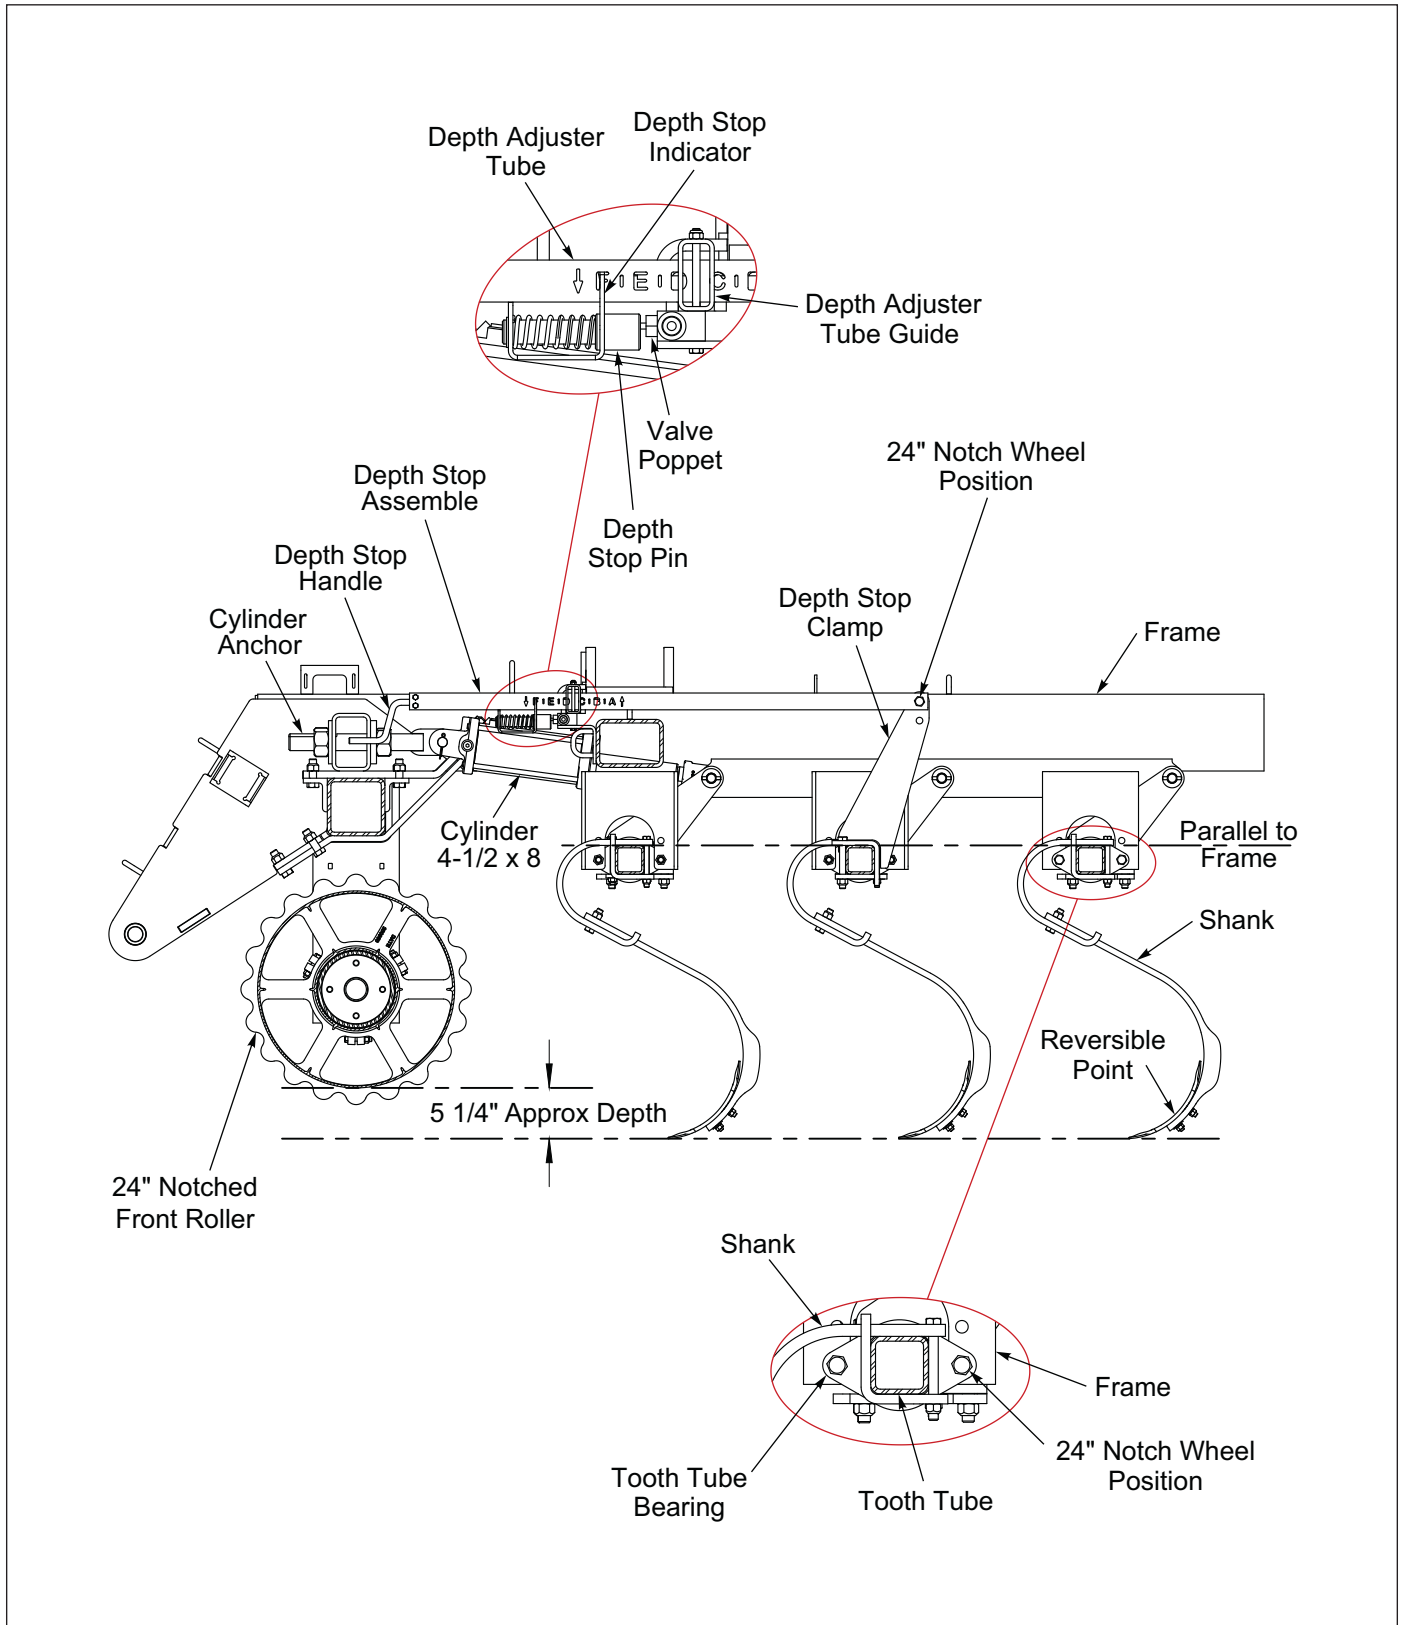

Figure 3-4: Shank Depth Control
1. To set the anchor bolt unfold Pulvi-Mulcher, machine raised, with all tooth control cylinders fully extended. Shanks should be set with tooth tubes parallel to the frame. **See Figure 3-4.**
If making adjustment all Tooth Tube Bearing should be assembled in the same position. **See Figure 3-4.**
2. Adjust the Shank Depth by turning the Depth Stop Handle until the desired letter that matches the required shank depth is centered on the depth Stop Indicator. **See Figure 3-4.**
3. Front and Rear Rollers are used to gauge the depth of the Shanks. **See Figure 3-4.**